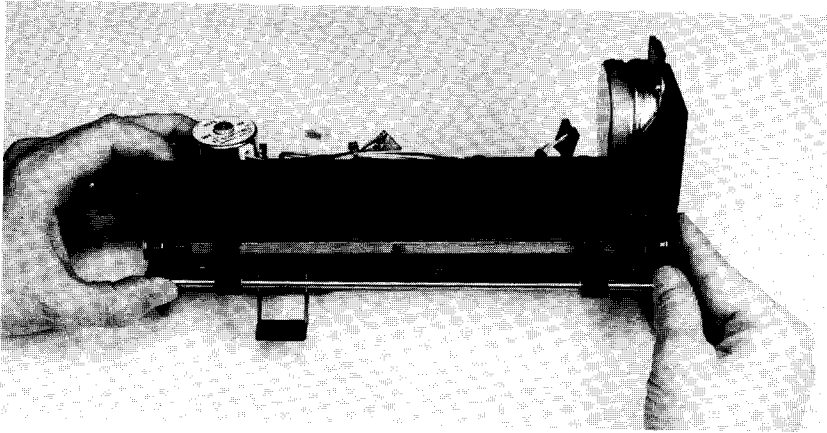

Figure 6-2. Bail Arm Adjustment, Right Side
1. Apply downward pressure on the left side of the bail arm assembly while lifting the right side of the bail, as shown in Figure 6-2. The right pinch roller should lift a short distance (approximately 1/8 to 1/4 inch) off the grit wheel before meeting heavy resistance.